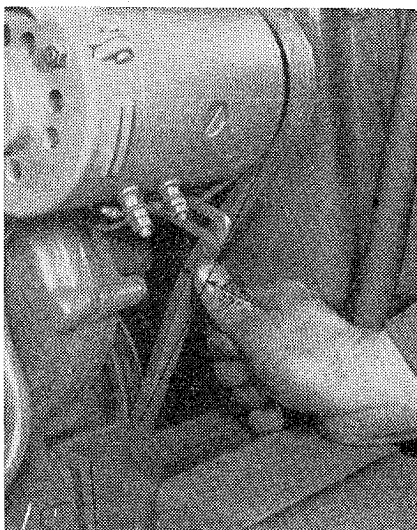

Fig. 18
- (9) Daily attendance (points 1 to 8).
- (10) Carry out lubrication of the tractor according to the Lubricating Chart.
- (11) Clean the oil filters No. 1 and 2.
- (12) Test the tightening of the fan belt (Fig. 18).
- (13) Clean the glass sedimentation bowl of the delivery pump (drain oil from the tyre inflator).
- (14) Inspect the electrolyte level in the storage battery (15 mm — .59" — above the upper border of plates), clean the oxidized cable terminals and apply grease.
- (15) Inspect the brake fluid level (capacity 0.3 litres — .066 imp. gal.).
The sag of the belt under average finger pressure must not exceed 20 mm (.79" — Fig. 18).